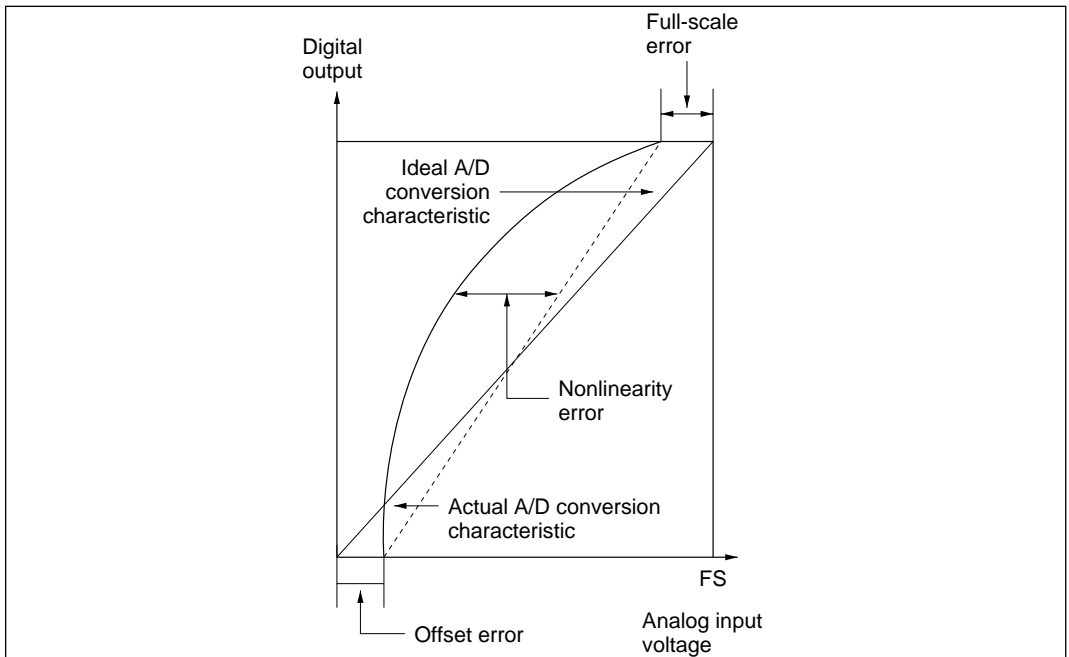

Figure 14-10 A/D Converter Accuracy Definitions (2)
- Offset error:Deviation from ideal A/D conversion characteristic of analog input voltage required to raise digital output from minimum voltage value 0000000000 to 0000000001 (figure 14-10)
- Full-scale error:Deviation from ideal A/D conversion characteristic of analog input voltage required to raise digital output from 1111111110 to 1111111111 (figure 14-10)